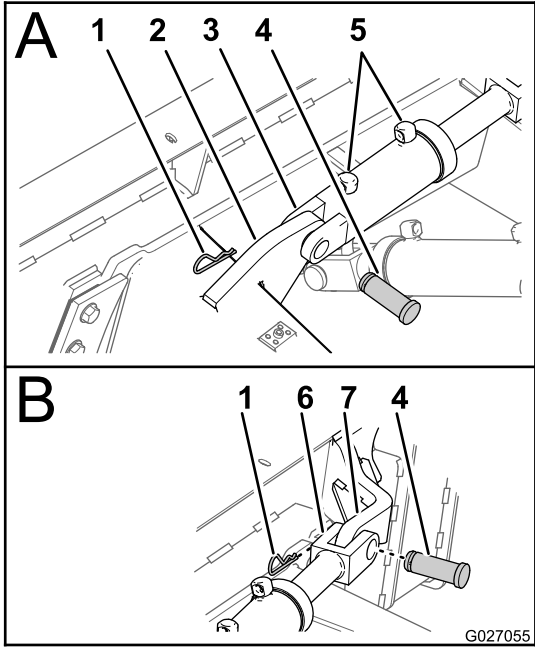

Figure 38
1. Align the hole in the mounting fitting at the fixed end of the lift cylinder—retracted length 51.4 cm (20.25 inch); rod diameter 44.5 mm 1.75 inch) with the hole mounting lug at the lift-arm assembly as shown in A of Figure 38.
2. Secure the mounting fitting of the lift cylinder to the mounting lug with a clevis pin (1-1/4 x 4-7/16 inch) and hairpin (Figure 38).
3. Align the holes in the rod fitting of the tilt cylinder with the cylinder lug of the backfill blade as shown in B of Figure 38.
4. Secure the rod fitting to the cylinder lug with a clevis pin (1-1/4 x 4-7/16 inch) and a hairpin (Figure 38).